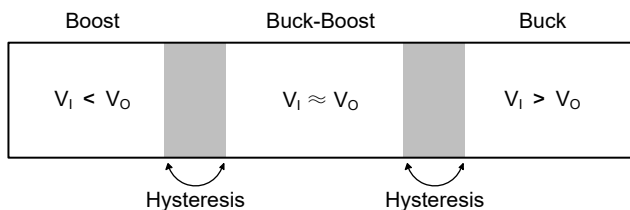
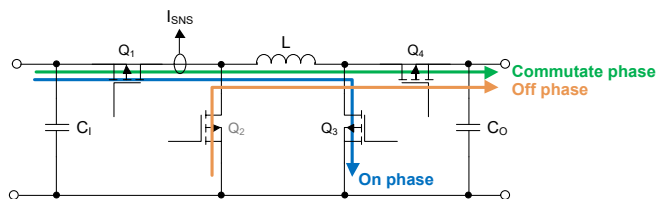

Figure 3. Switching Scheme Selection
Figure 6. Buck-Boost Switch Configuration
The SGM62110 and SGM62111 automatically select the operation mode based on the input and output voltages as shown in Figure 3. Hysteresis is added in the $V_{IN} \approx V_{OUT}$ region to ensure stable operation.
When V_{IN} is close to or equal to V_{OUT} , all four switches are controlled in a continuously on manner (Figure 6). Each switching cycle has four phases: on phase (Q_1, Q_3 on), commutate phase (Q_1, Q_4 on), off phase (Q_2, Q_4 on) and commutate phase (Q_1, Q_4 on).
The SGM62110 and SGM62111 use a clamp circuit to limit the peak inductor current if the device is overloaded. The output current limit value depends on the operating conditions (VIN and VOUT) and the operating mode (buck, buck-boost or boost) – see Figure 3 to Figure 6. Usually an overload results in higher power dissipation and increased junction temperature (TJ) in the device that can cause device shutdown triggered by the over-temperature protection.